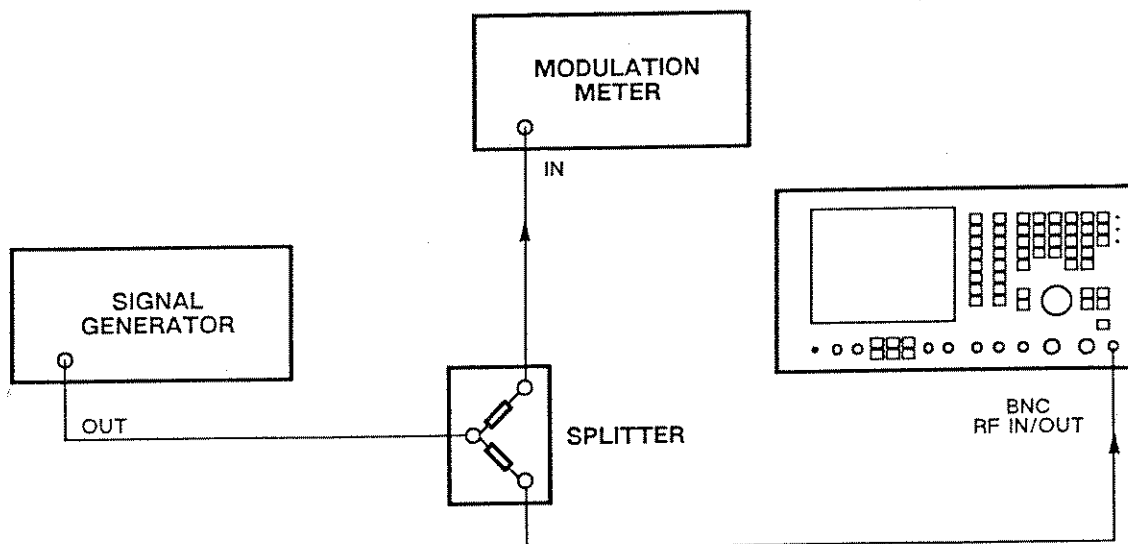

Fig. 6-4 Test equipment connections for modulation meter AM depth and FM deviation
- (1) Connect the signal generator to the input of the power splitter. Connect the outputs of the power splitter to the RF IN/OUT BNC socket and to the modulation meter. See Fig. 6-4.
- (2) On the 2955B, set the MODE to TRANSMITTER TEST, MOD to AM, FILTER to 0.3-3.4 kHz BAND PASS and RF IN/OUT socket to BNC.
- (2) On the 2955B, set the MODE to TRANSMITTER TEST, MOD to FM, FILTER to 0.3-3.4 kHz BAND PASS, DIST'N, S/N and SINAD to off and RF IN/OUT socket to BNC.
- (3) Set the signal generator carrier frequency to 500 MHz, level to 13 dBm, 25 kHz FM and 1 kHz internal modulating frequency.
- (4) Set the modulation meter to FM in a 0.3 to 3.4 kHz bandwidth.
- (5) Check that the MOD LEVEL reading is the same as the modulation meter reading $\pm 5\% \pm 1$ digit. Check that the FM bar chart indicates the FM being applied.
- (6) Repeat (3) and (5) for other carrier frequencies from 1.5 to 1000 MHz and deviations between 0 and 25 kHz.
- (7) On the 2955B, set the FILTER to 15 kHz LOW PASS.
- (8) Set the signal generator carrier frequency to 500 MHz, level to 13 dBm, modulation level to 25 kHz external FM at 10 kHz modulating frequency (from the LF generator).
- (9) Set the modulation meter to FM in a 30 Hz to 50 kHz bandwidth.
- (10) Set the synthesized LF generator to give a 10 kHz sinewave. Adjust the level to suit the external modulation input of the signal generator.
- (11) Check that the MOD LEVEL reading is the same as the modulation meter reading $\pm 7.5\%$.